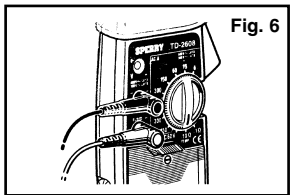

Fig. 6
- (1) Test the circuit to make sure it is de-energized. Refer to section 4.3 on how to test for voltage.
- (2) Set the range switch to the desired ohm range position. Insert the red test lead into the "OHM" terminal and the black test lead into the "COM" terminal (Fig. 6).